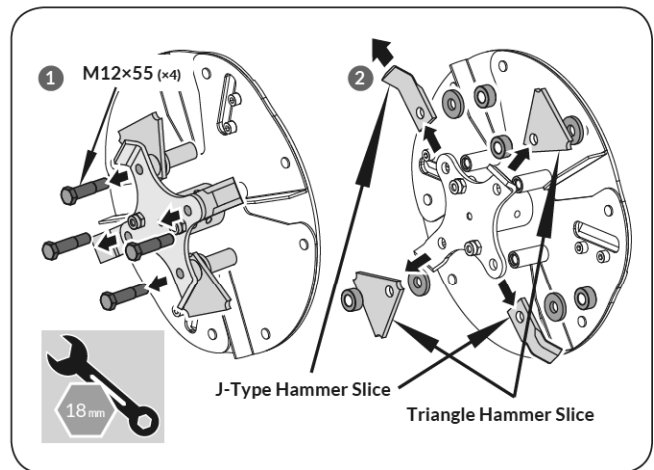

Figure 14
- If the hammer slicers are damaged, remove the four M12x55 bolts that hold the J-type hammer slicer and triangle hammer slicer, and replace. (See Figure 14)